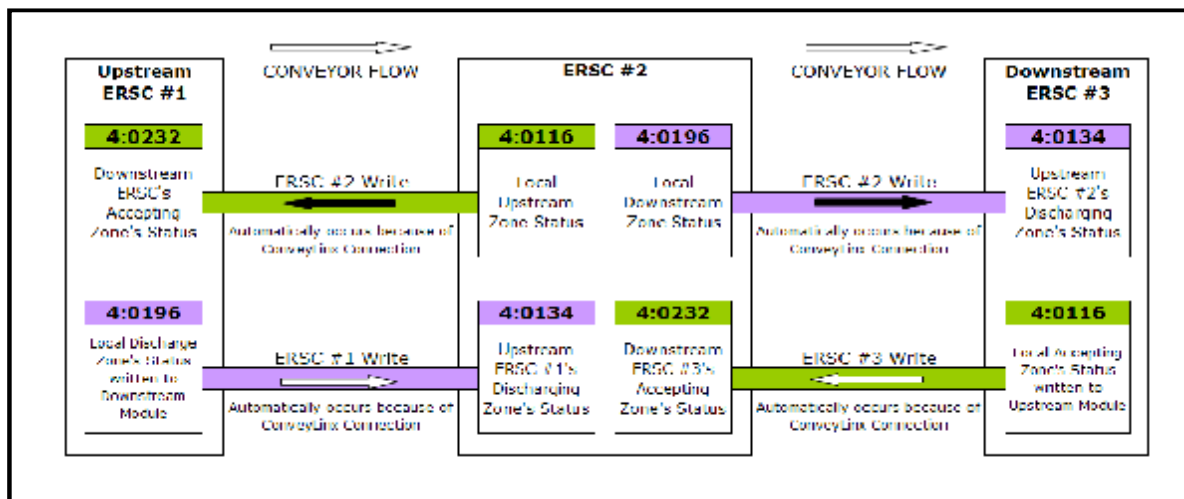

Figure 2 - *ERSC* Register Mapping for Normal Flow
From the preceding charts, we can see that all of the *Holding Registers* in Figure 2 contain integer values indicating a zone status. In essence, the ZPA control process in each *ERSC* writes its zone's status to its adjacent neighbors and monitors its local registers that are written to by its adjacent *ERSC* neighbors. The ZPA process acts upon what is written to it and updates its local status accordingly. For example, the following sequence would be typical:
**\*\*\* Affecting Adjacent ERSC Communication in Ethernet I/P:** Referring to Figure 2 on page 19, these registers are the ones populated by adjacent ERSC's which indicate the adjacent zone's status. By placing non-zero values in these registers with the PLC, the ERSC is instructed to ignore the data written by these adjacent modules and act upon the data written by the PLC. When these registers are set to “0”, the ERSC will act upon the data as written by the adjacent ERSC's.